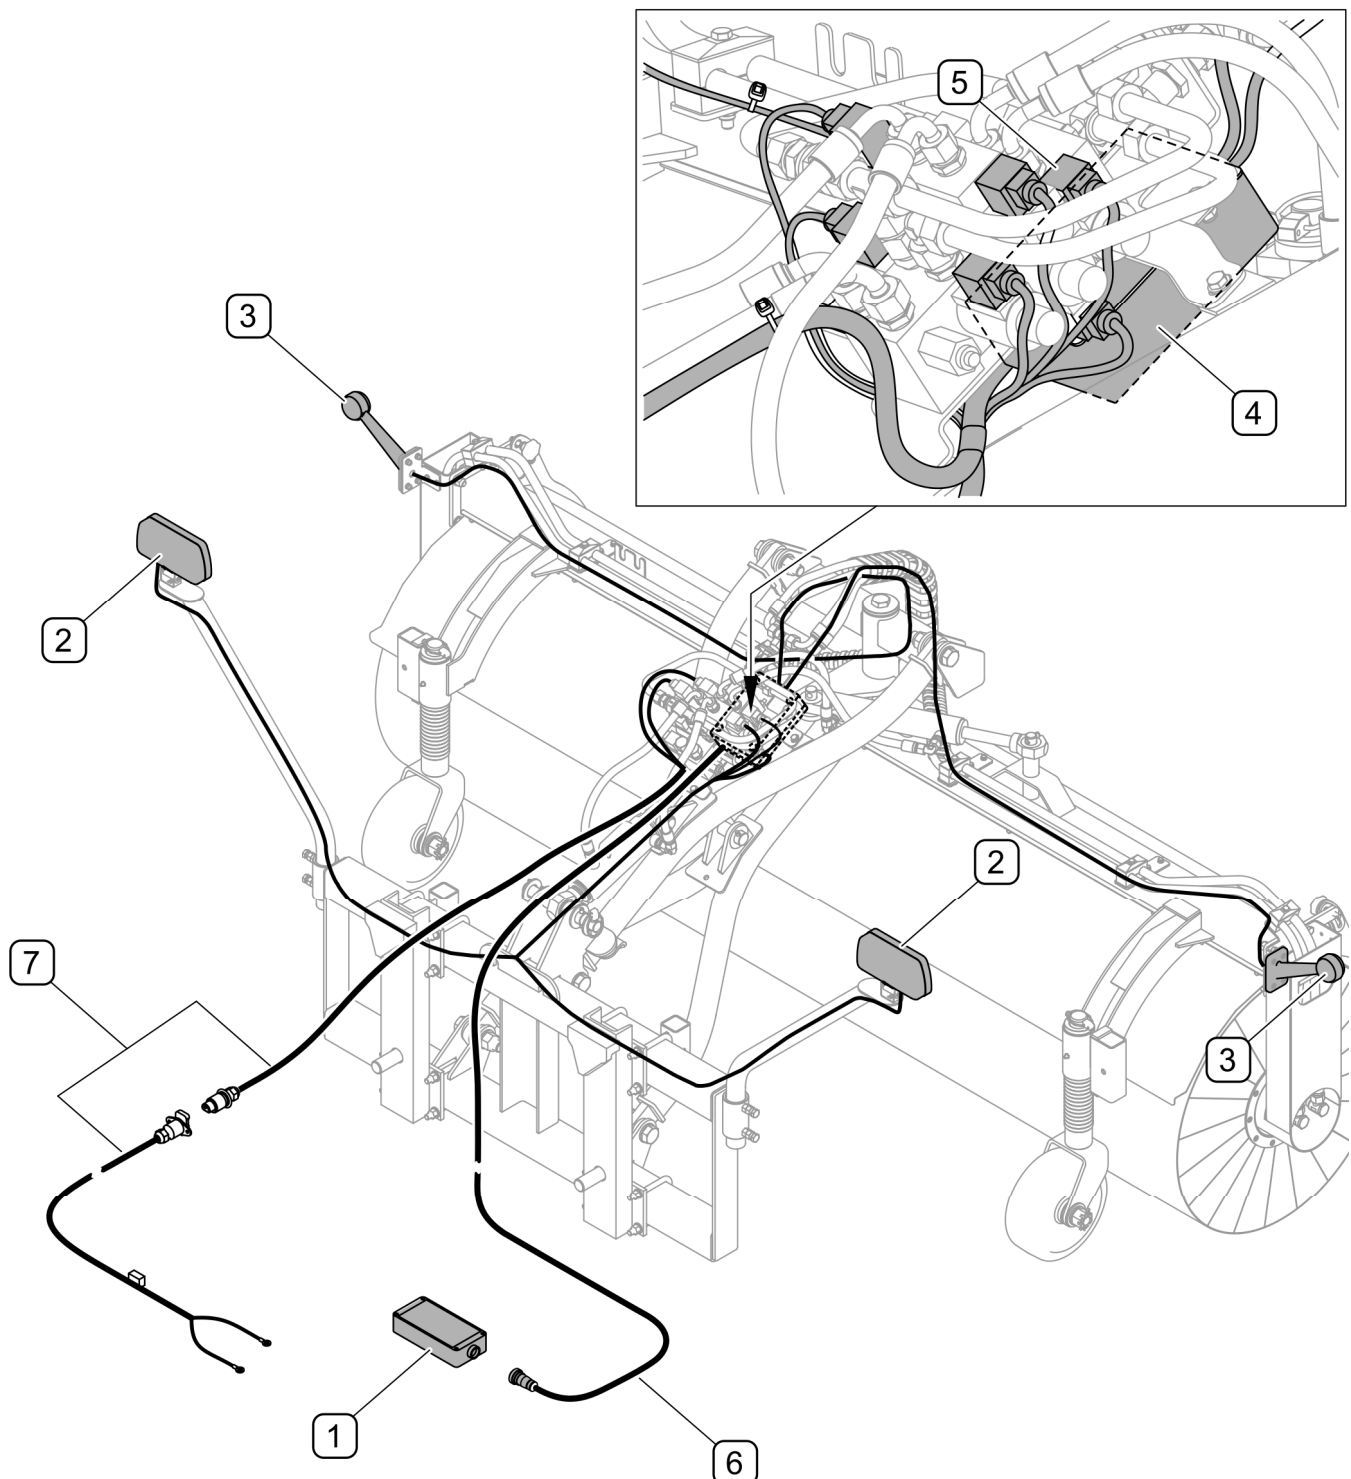

FIG. 3.7 Design of the electrical system (ZM-S25)
(1) - control panel; (2) - additional working lights; (3) - clearance lights; (4) - connecting box;
(5) - solenoid valves; (6) - control panel lead; (7) - power lead
Electrical system of ZM-S25 sweeper (FIG. 3.7) is used for supplying and controlling the sweeper's lighting system that consists of working lights (2) and clearance lights (3) and for controlling solenoid valves (4) of the hydraulic manifold. The sweeper's electrical system is connected to the carrying vehicle using power lead (7) terminated with a socket and a 3-pin plug. Depending on machine version, the sweeper can be supplied from 12V or 24V electrical system of the carrying vehicle. The sweeper is controlled by means of control panel (1) that is connected to the sweeper with lead (6).